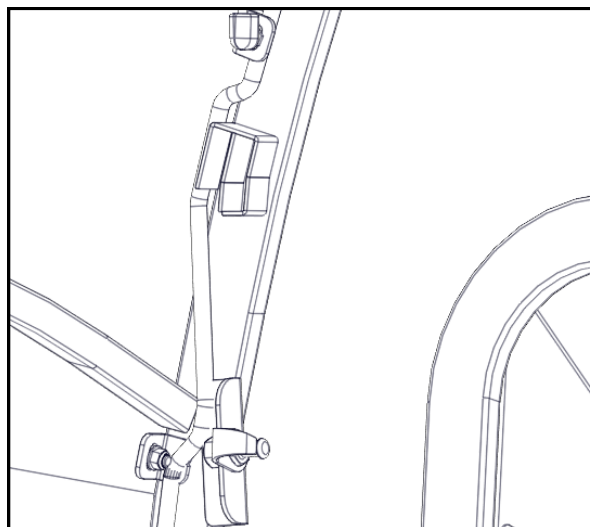

Fig. 17.3a Wire Loom Routing - Side frame
**17.3** Per figures 17.3a, 17.3b and 17.3c, secure the switched power harness to the right side frame with P-Clips and self-drilling screws. Note: Wire routing is critical, make sure the wires are placed on the inside of the cowl, and the outside of the twist latch catch found on the right side frame.